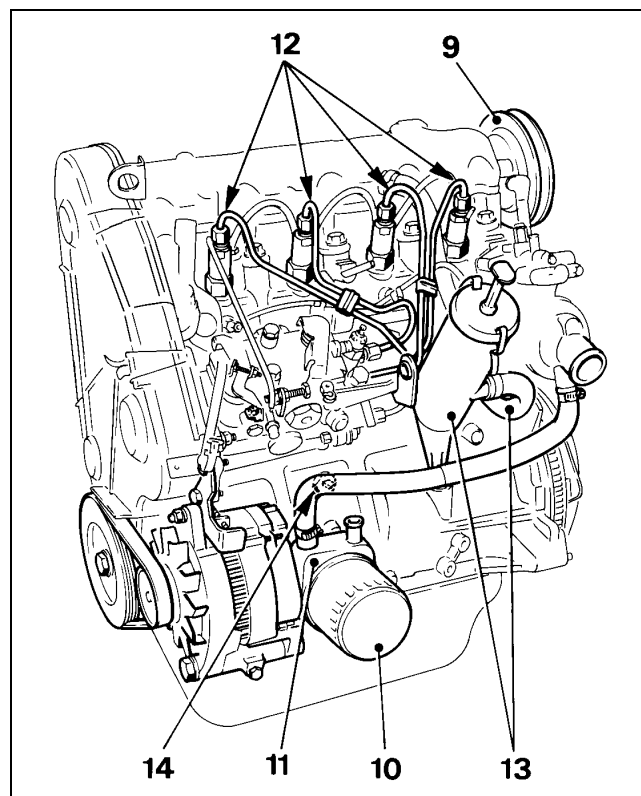

Figure 57
7. Remove the oil filter (Fig. 57, Item 10).